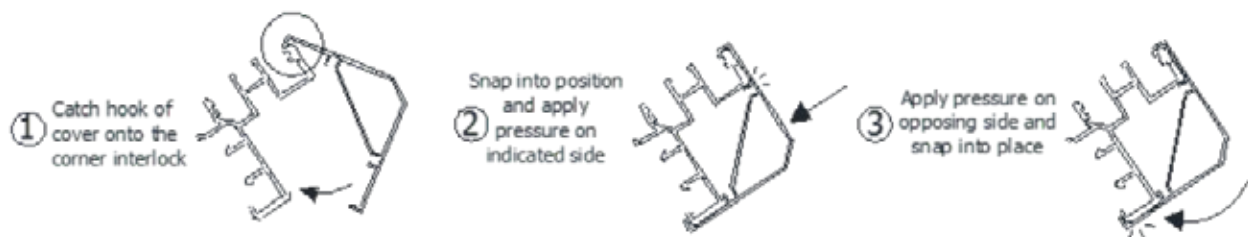

Figure 33
3. **When** panels are ready to be installed, locate the corner astragal panel and the separately packaged astragal cover (Item 48). Align the cover with the bottom of the astragal and snap into place (Figure 33). Verify the cover is aligned with the top and bottom of the astragal.